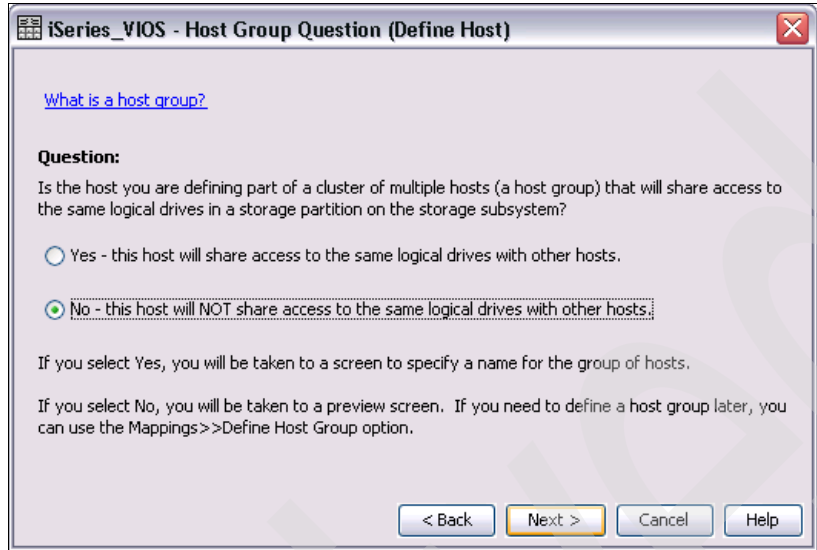

Figure 7-70 DS Storage Manager Host Group Question dialog
11. In the Host Group Question dialog we select **No - This host will NOT share access to the same logical drives with other hosts** and click **Next** to proceed, as shown in Figure 7-70.